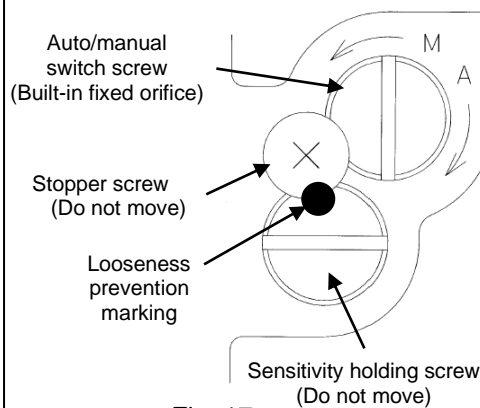

Fig. 17
- \*6: Auto and manual mode can be switched by rotating the pilot valve unit auto/manual switch screw to the manual (M) side as shown in Fig. 17. A small stopper screw in the top is to prevent loosening and must not be tampered with or loosened. Also, a sensitivity holding screw is set prior to factory shipment and must not be accidentally rotated.